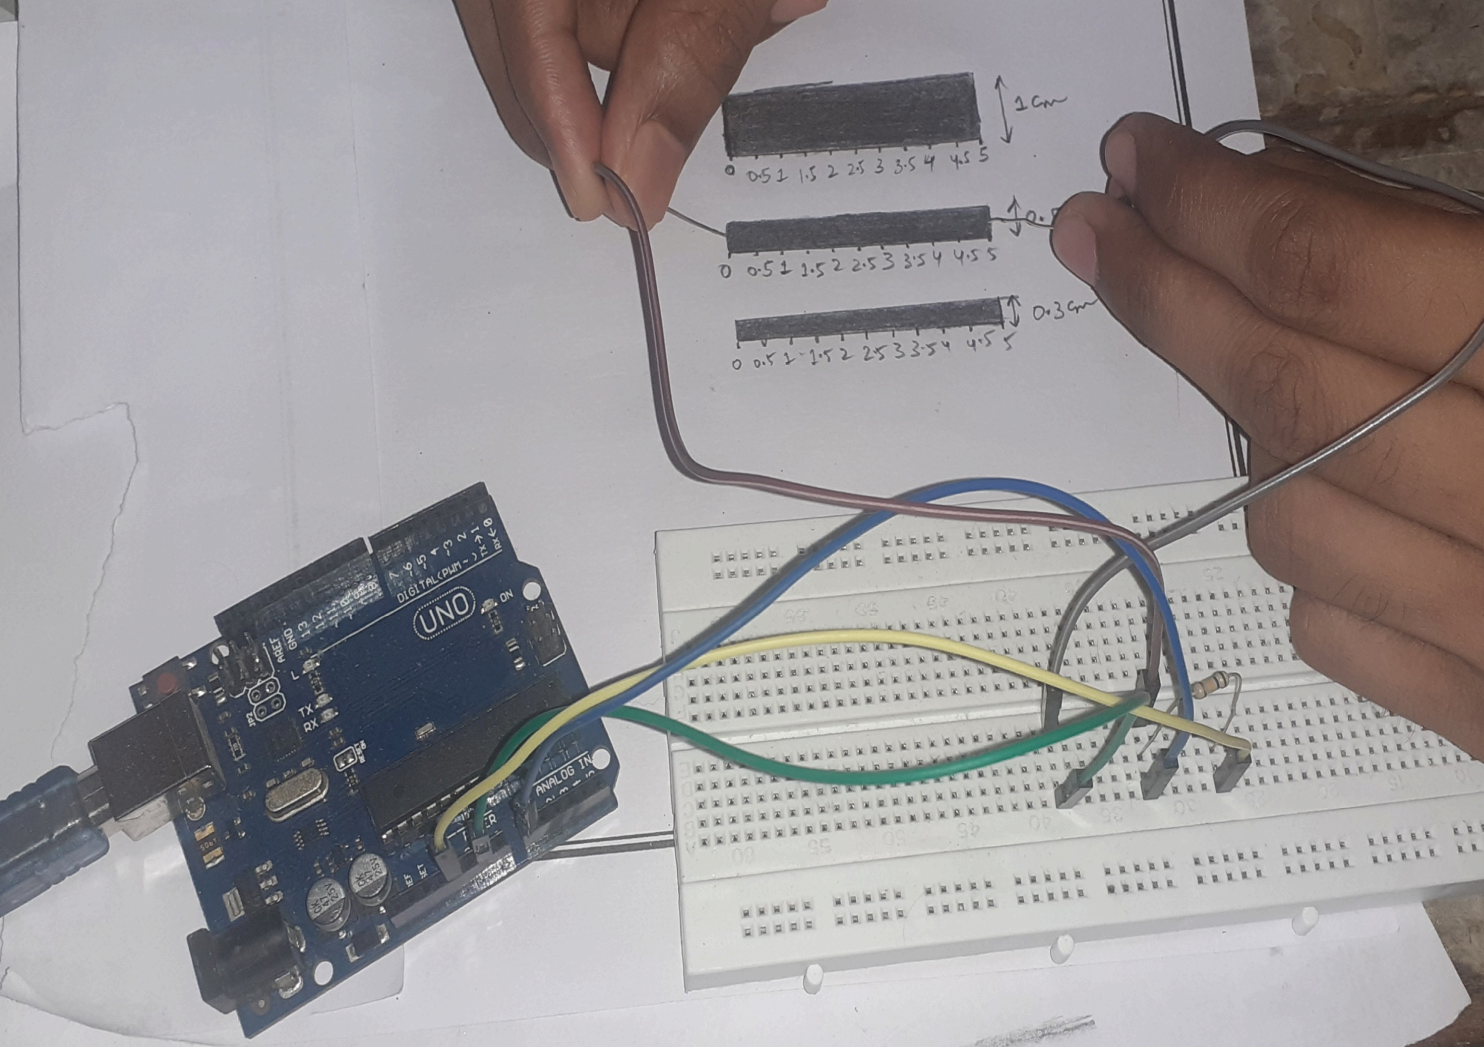

Figure 1.2
- Give connections as shown in figure 1.2 for the Arduino Uno.